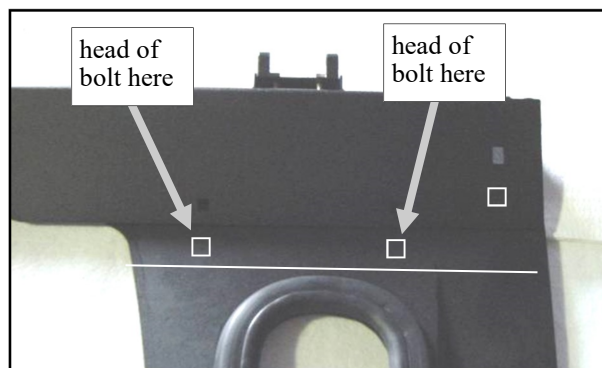

Fig. 4.1 (2-piece cowl assembly)
4.1 On a padded, or protected surface, pre-assemble the cowl and the left front leg. Per figure 4.1, set the cowl down on the protected surface with the two 90 degree bends pointed down. Place the left leg underneath the cowl and attach as shown in figures 4.1 and 4.1a with the following hardware: two 5/16" x 1" long button head bolts, two plastic washers, four steel washers, and two locknuts. Locknuts to be on the bottom side. Leave the bolts loose.